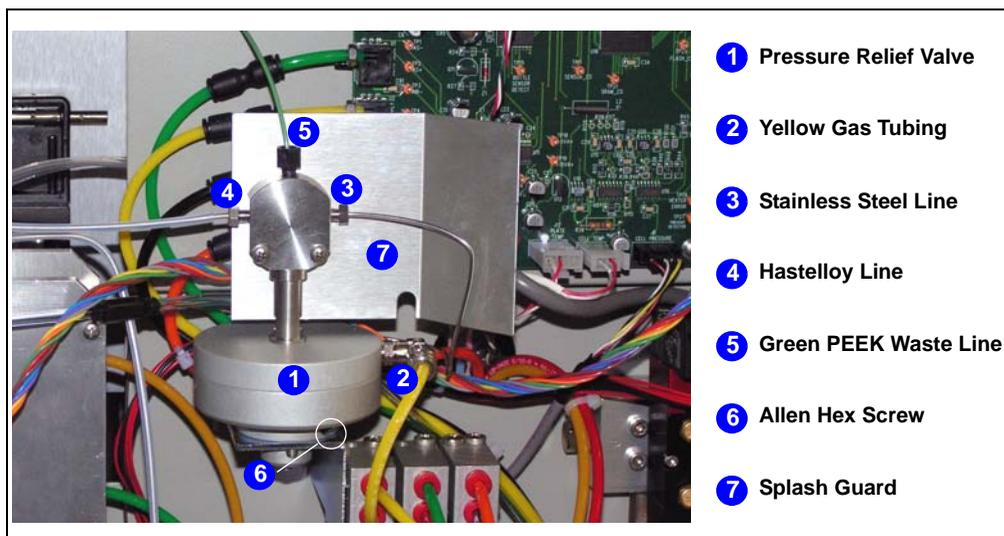

Figure 5-18. Connections to the Pressure Relief Valve
2. The pressure relief valve is installed in the upper-left corner of the component panel (see Figure 5-18, ①). Disconnect the yellow gas tubing (②) from the elbow press fitting on the valve.